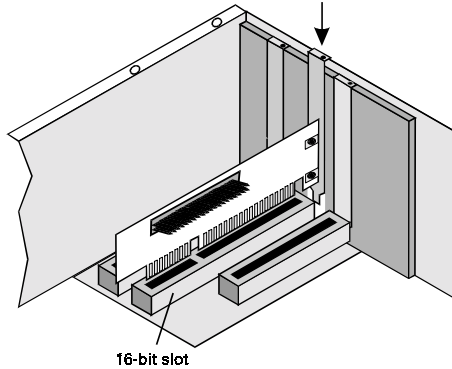

Figure 2-15: Inserting the IDE CD-ROM interface card.
3. Align the IDE CD-ROM interface card's gold-stripped connector with the expansion slot and gently lower it into the slot (see Figure 2-15).